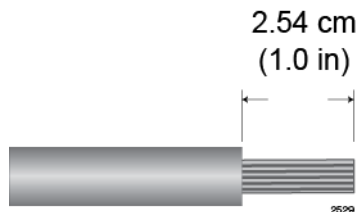

Figure 137. Stripping the solid or Stranded Grounding Wire
1. Prepare an adequate length of solid or stranded 10 AWG grounding wire by stripping it as shown in Figure 137.